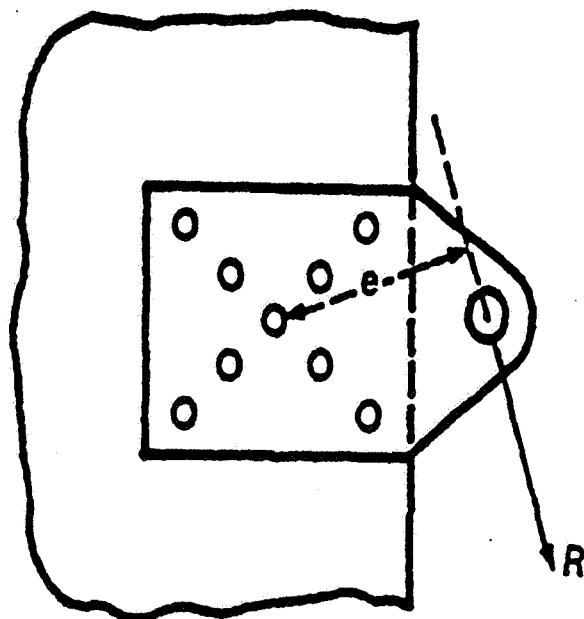

Figure 25
- Shear Loads on a Fastener Group (Using Figures 25 and 26)**
In many cases, the fastener pattern will be symmetrical, as shown in Figure 25, such that the centroid calculations are unnecessary. With the centroid located, the next step is to divide the load (R) by the number of fasteners (n) to get the direct shear load (P_c) on each fastener.